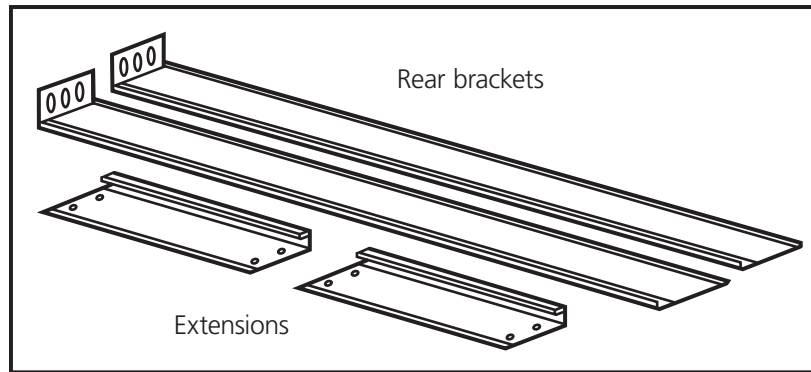
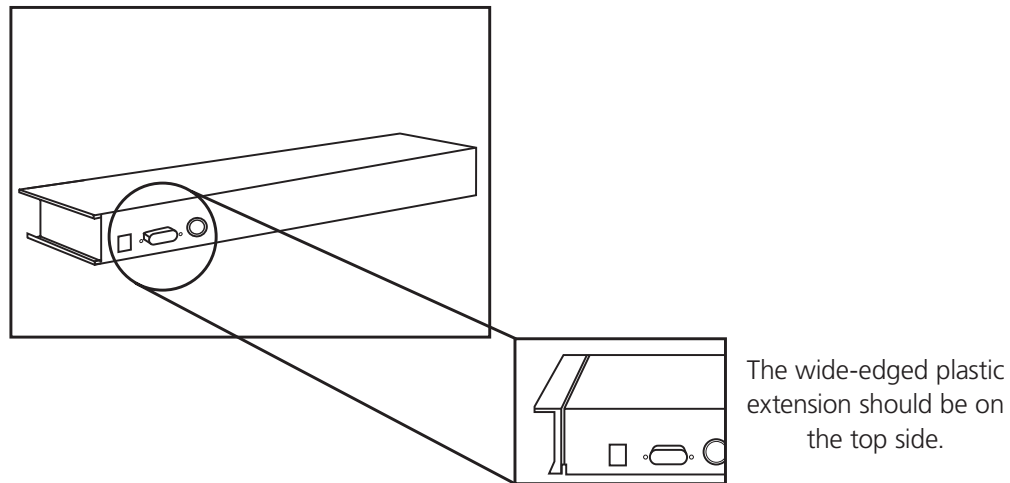

Figure 3-1. Rear brackets and extensions.
Figure 3-5. Back view of module with extensions attached.
2. Using four 0.12" x 0.24" countersunk screws (included), attach the extensions (included with your ServTray Kit) to both sides of the KVM switch module. See Figures 3-1 through 3-5. The wide-edged plastic extension should be on the top side (see Figure 3-5).